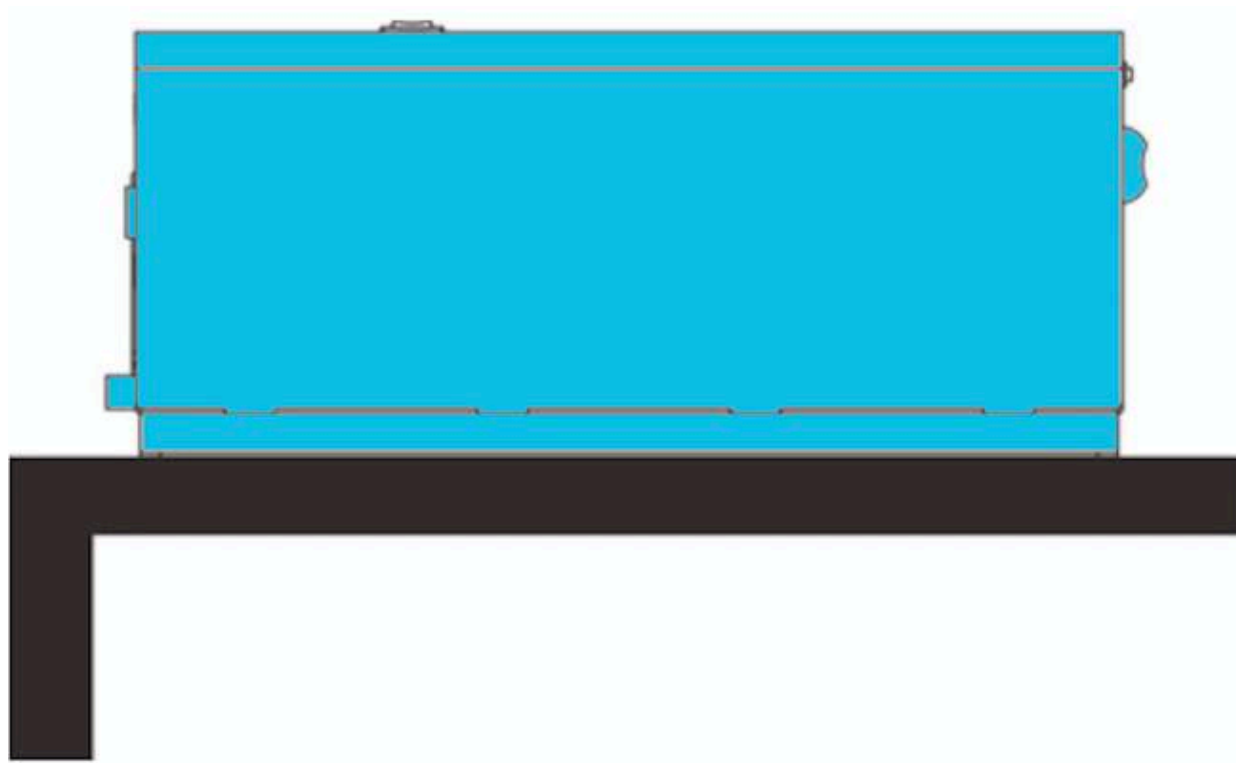

Figure 10
2. Mounting considerations are shown in Figure 10~Figure 13 on page21.